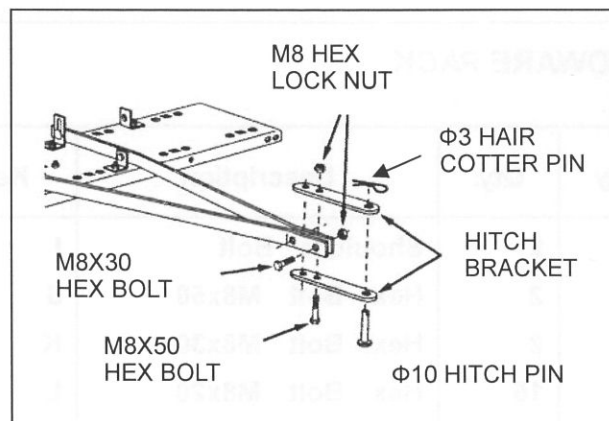

FIGURE 4
7. Assemble the front ends of the hitch mount arms together using two M8x30 hex bolts and M8 hex lock nuts. Do not tighten yet. See figure 4.
8. Assemble the hitch brackets to the top and bottom of the hitch mount arms using two M8x50 hex bolts and M8 hex lock nuts. Do not tighten yet. See figure 4.
9. Assemble the $\Phi 10$ hitch pin through the hitch brackets and secure it with a $\Phi 3$ hair cotter pin. See figure 4.